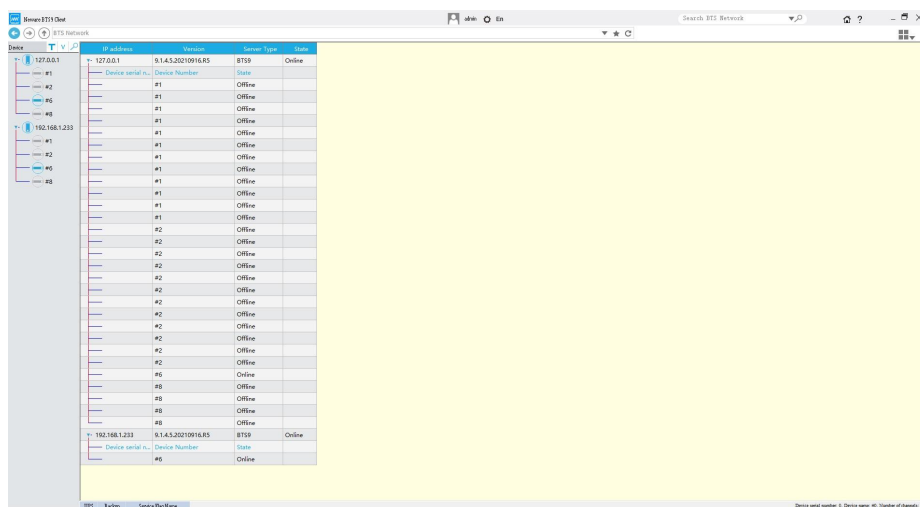

Figure 4-5 HOME interface
- HOME Click : The main interface of the client is shown in the following figure (Figure 4-5):